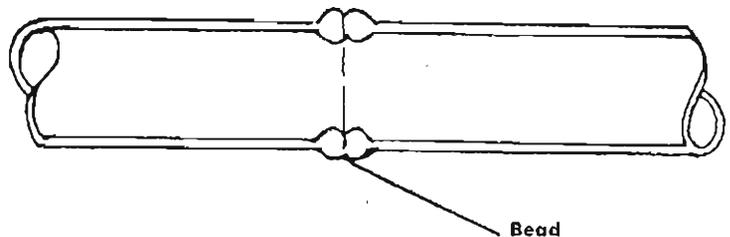

Figure 5.8: HDPE Pipe with Bead after Joining
- The plate is removed from between the pipe ends and the ends are pushed together. While joining the ends, the contact must be even and the alignment perpendicular. Once the melted ends touch each other they must not be separated and realigned. The pipe ends are pressed firmly but not excessively (Figure 5.8). The joined pipe should then be laid on level ground with no stress to the joint for about 15 minutes. If necessary, supporting packing should be laid underneath the pipe at appropriate locations to maintain alignment and reduce stress.